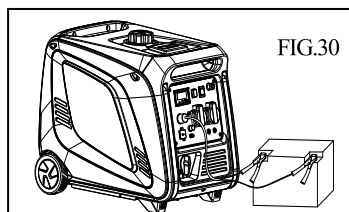

FIG.30
- (b) Connect between the DC output socket and the battery terminals using the charging leads. The leads shall be connected making sure of the (+) and (-) polarity. **FIG.30**